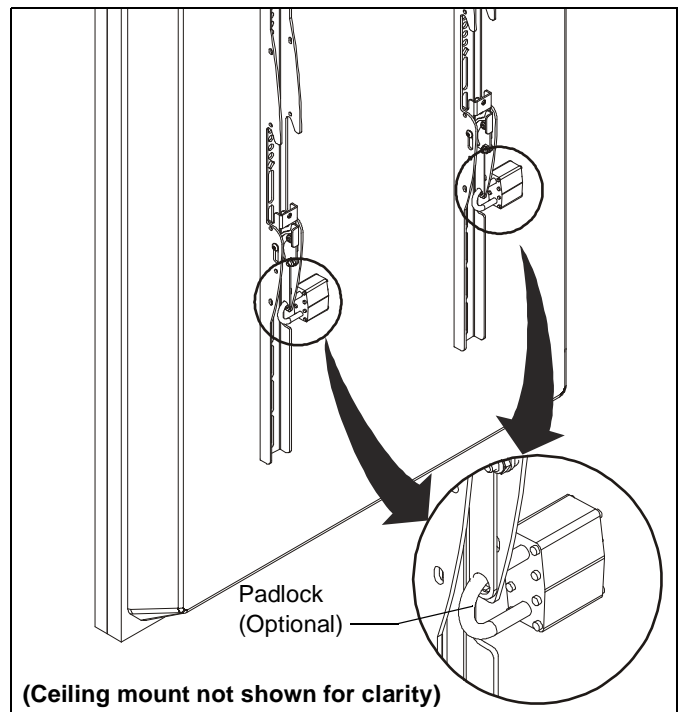

Figure 13
1. **OPTIONAL:** Add padlock (not included) to each interface bracket to lock displays to ceiling mount. (See Figure 13)